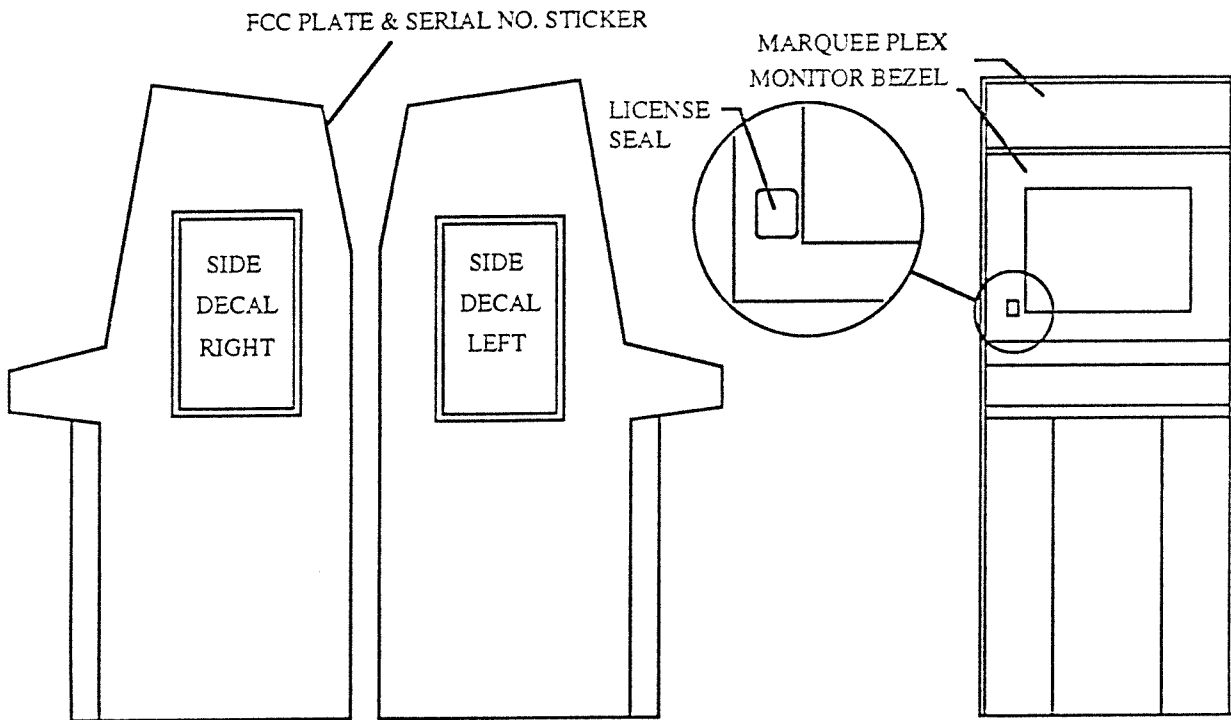

Figure 1
1. Locate the LICENSE SEAL and place seal as shown in figure 1. Note: Verify that the License Seal will be visible when installed on game cabinet on the existing Monitor Bezel.
2. Locate the SIDE DECALS and install on the left and right side panels of the (see figure 1). Note: A mixture of slightly soapy water can be used on the cabinet to position the artwork as desired. A squeegee may be used to remove any wrinkles in the artwork if soapy water is used.
3. Locate the MARQUEE PLEX and measure the size of existing marquee plex or required size to fit and trim the marquee plex to size. Install on cabinet. (see figure 1)
29. Locate the Kit SERIAL NUMBER STICKER and FCC PLATE. Install these on the rear of the game cabinet. (see figure 1 )